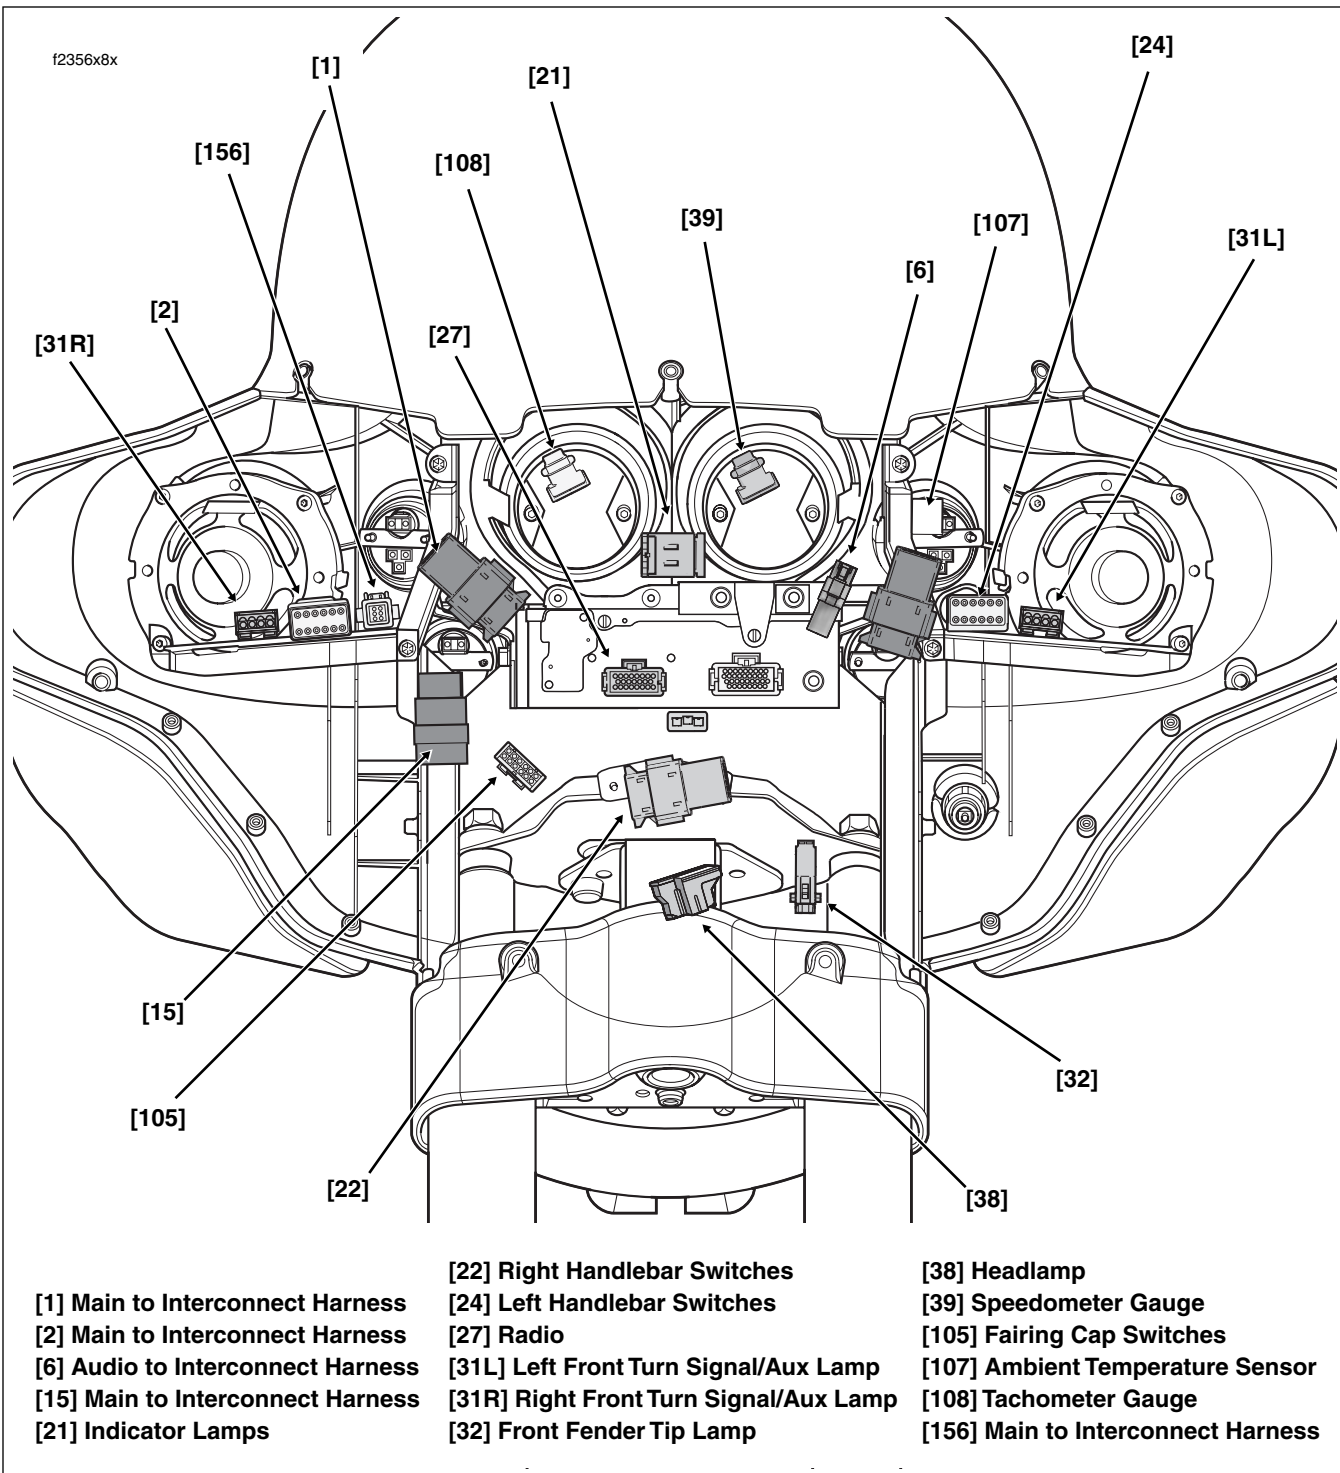

Figure 8-172. Inner Fairing - Interconnect Harness Connectors (FLHX, FLHT/C/U)
7. Remove connectors from their retaining devices, if present, and disconnect pin and socket halves. See Figure 8-172.